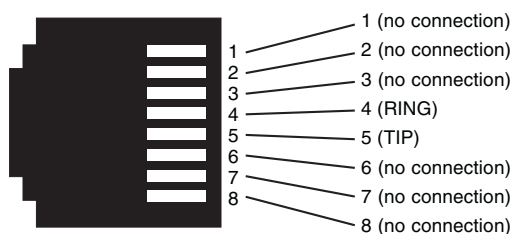
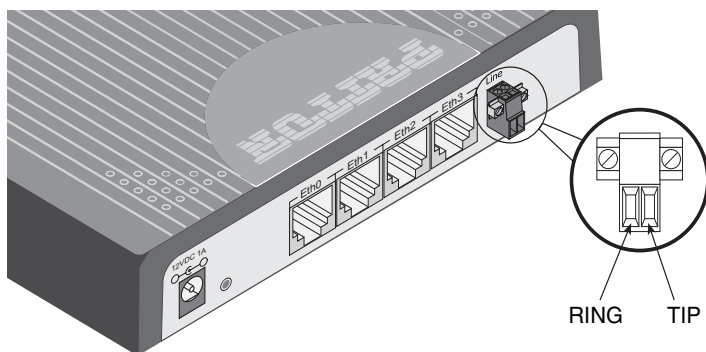

Figure 3. Model 2174 (RJ-45) twisted pair line interface.
Figure 4. Model 2174 (Terminal Block) twisted pair line interface
2. The Model 2174 is equipped with an RJ-45 interface jack (Figure 3) or terminal block (Figure 4) that can be used on the CopperLINK interface. The CopperLINK interface is a two-wire interface. Observe the signal/pin relationships on the Model 2174's CopperLINK interface jack.
The RJ-45 connector on the Model 2174's twisted pair interface is polarity insensitive and is wired for a two-wire interface. The signal/pin relationship is shown in Figure 3.